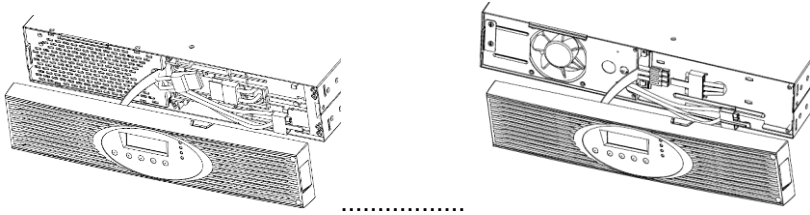

Figure 17: Replacing the internal batteries of the UPS system
2. Disconnect the internal battery plug connection (see Figure 17).
3. **Only for UPS systems up to 1500 VA:** If the cable for an additional battery module is not connected, released this and push it to the left for better access (see Figure 17).
10. **Only for device types up to 1500 VA:** If the cable for an additional battery module is not connected, secure the cable again to the corresponding holder on the battery cover (see Figure 17).